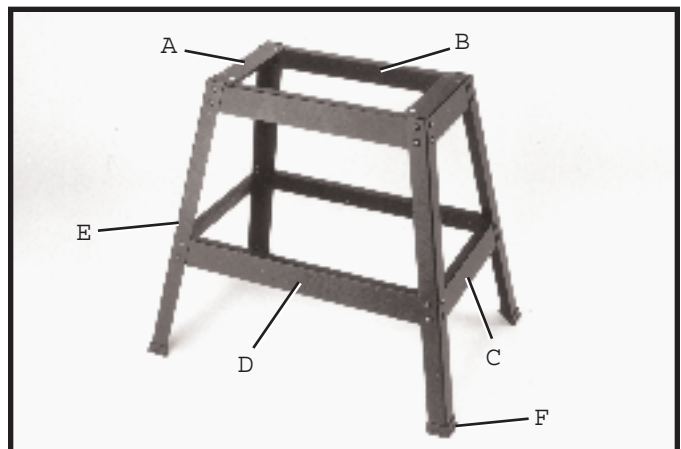

Fig. 14
1 Assemble the stand, as shown in Fig. 14, using the 32 carriage bolts, flat washers and nuts supplied. The two 11-1/2 long upper braces (A); 21-5/16 long upper braces (B); 17-1/8 long lower braces (C); and 26-5/8 long lower braces (D) should be fastened to the four 27-1/2 long legs (E). **IMPORTANT:** The top lips of the upper braces (A) should be on top of the top lips of upper braces (B).
2 Assemble a plastic foot (F) Fig. 14, to bottom of each leg (E) as shown.